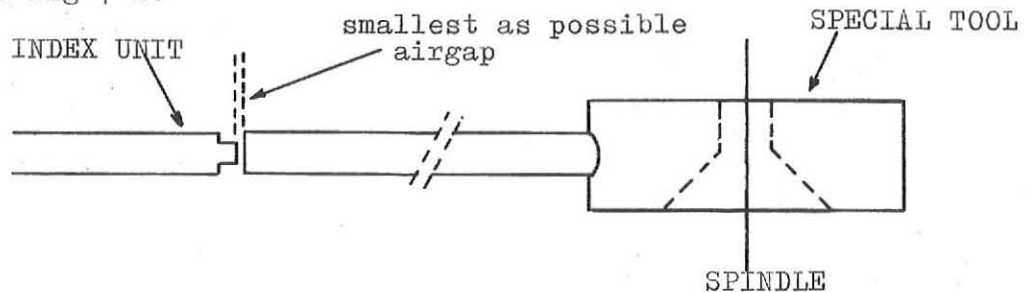

Fig 7-26
4. Adjust the index unit with the gauge, so that it is just free. See fig 7-26